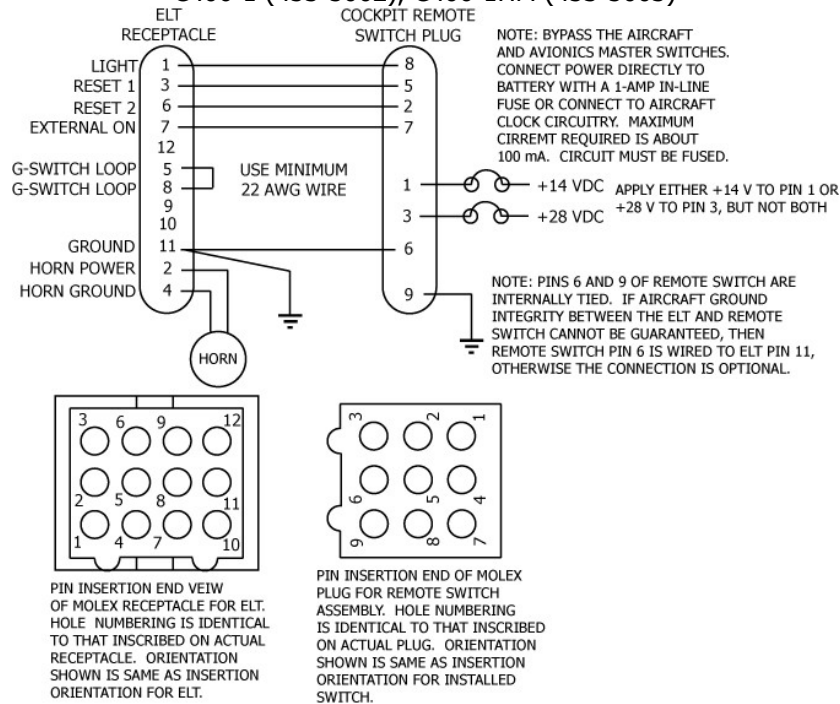

Figure 20 Remote Switch Harness Wiring Diagram
- 2) Fabricate a 5-wire harness long enough to reach from the ELT to the cockpit remote switch, allowing enough slack to provide a drip loop at the ELT end and a service loop at the cockpit remote switch end. See Figure 20 on page 49.
- 3) Three additional wires are required. See Figure 20 on page 49.
- 4) Insert the wiring pins in the harness ELT 151-5012 Molex 12-pin receptacle. See Figure 20 on page 49.
- 1) Connect the ground wires to the airframe in accordance with the aircraft manufacturer's written instructions or as described in AC 43.13-1, Chapter 11, § 15. See Figure 20 on page 49.